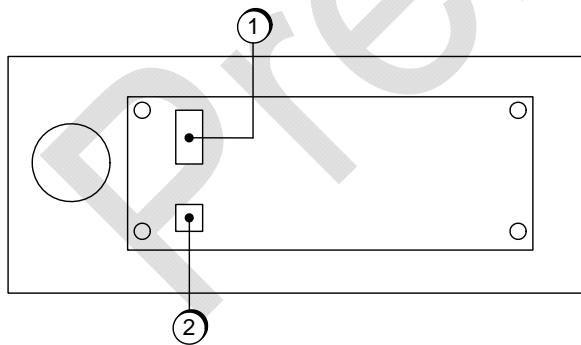

Figure 13: Back side of the display
4. Insert the 7-pin plug at the back of the display in the upper connector (see Figure 13, item 1).
5. Insert the plug of the joystick adapter cable in the lower connector (see Figure 13, item 2).